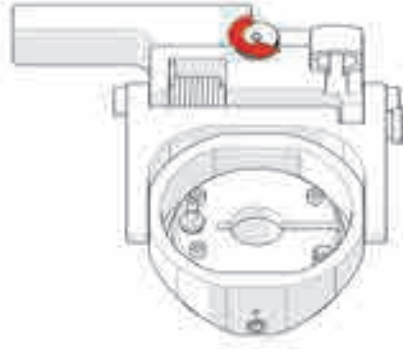

Figure 4-93 Loosen knob
2. Rotate the probe holder adjustment knob (see Figure 4-93 on page 161).